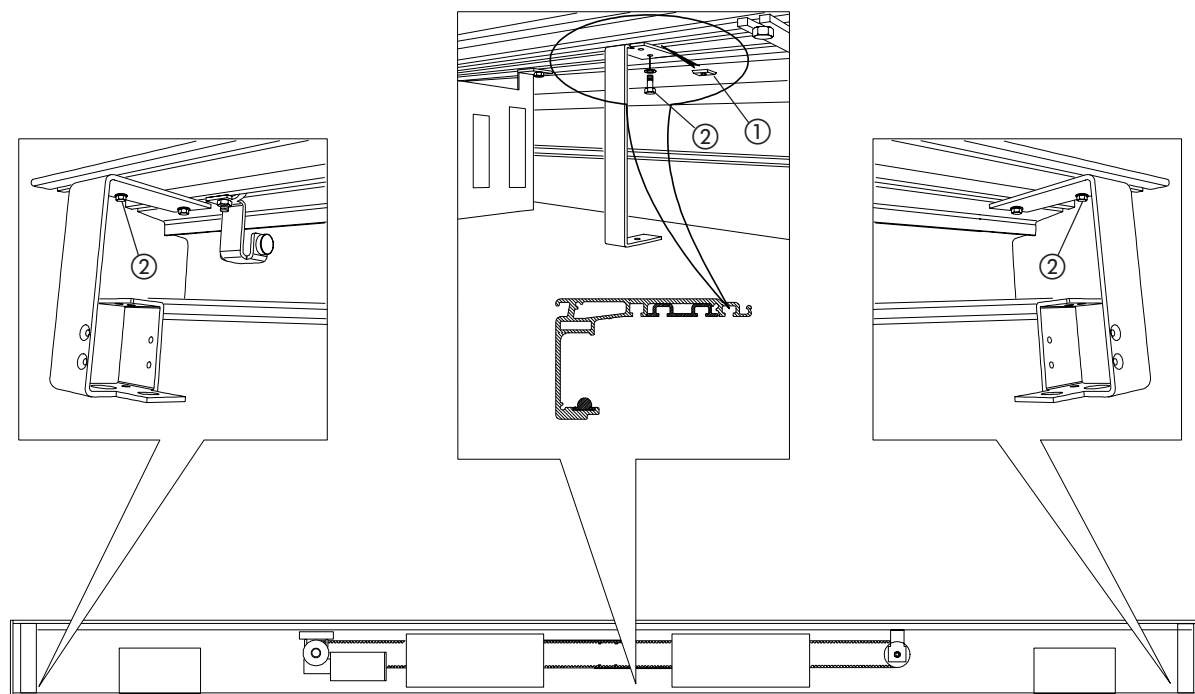

fig. 63
Fit another 2 plates at the centre of the header for securing the central bracket as shown in fig. 63 ref. ①.
Secure the three brackets, using the appropriate screws as shown in fig. 63 ref. ②.